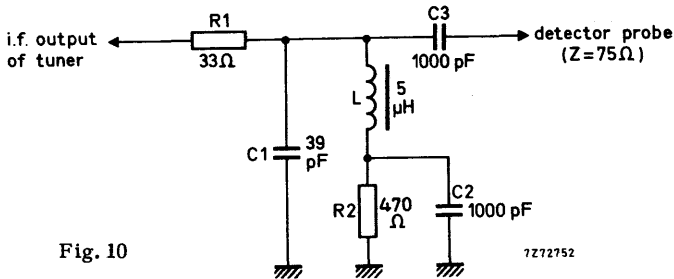

Fig. 10
Note: I.F. output of the tuner terminated with a modified circuit of Fig. 10, i. e. a 100 pF capacitor is connected in parallel with C1 and R1 is short circuited; tuning voltage is 15 V.
1) I.F. output of the tuner terminated with the circuit shown in Fig. 10; tuning voltage is 15 V.
The tuner needs normal supply voltages and a tuning voltage of 15 V; the i. f. output should be loaded with the circuit shown in Fig. 10.
The i. f. output of the tuner should be terminated with the RC-circuit given in Fig. 10.